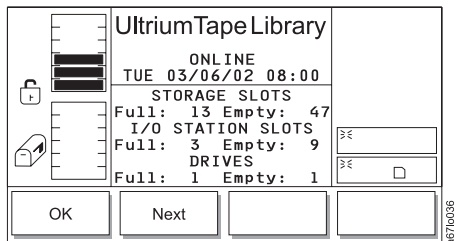

Figure 4-28. System Dialog
3. Press the button below the **System** softkey. The System Dialog displays (see Figure 4-28). The screen gives the number of full (occupied) and empty storage slots. It also lists the number of full and empty I/O station slots and drives.